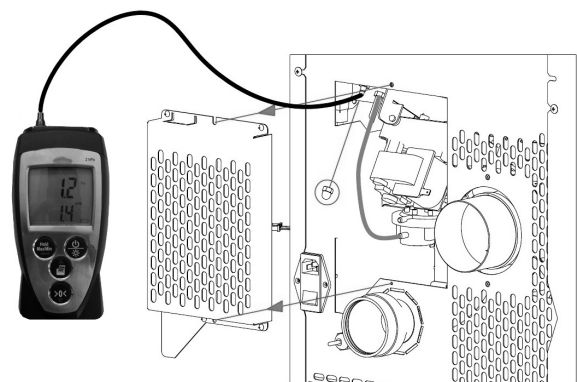

Fig. 47 - Digital pressure switch connection
- Connect a digital pressure switch with a tube to detect the depression (see **Fig. 47**).